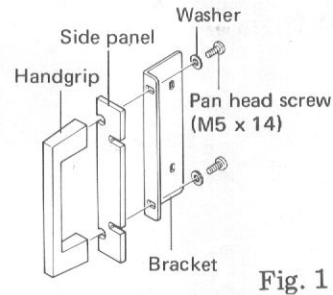

Fig. 1
1. Sandwich the side panel between the handgrip and the bracket and secure loosely with the accessory pan head screws (M5 x 14) and the washers. Do the same for the other adaptor (Fig. 1).